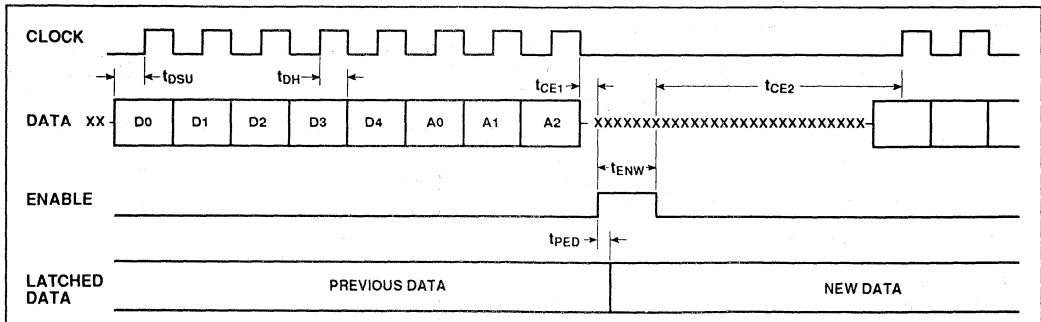

Fig. 5 Control Interface timing diagram
**CONTROL INTERFACE (SEE FIGS. 5 AND 6))**